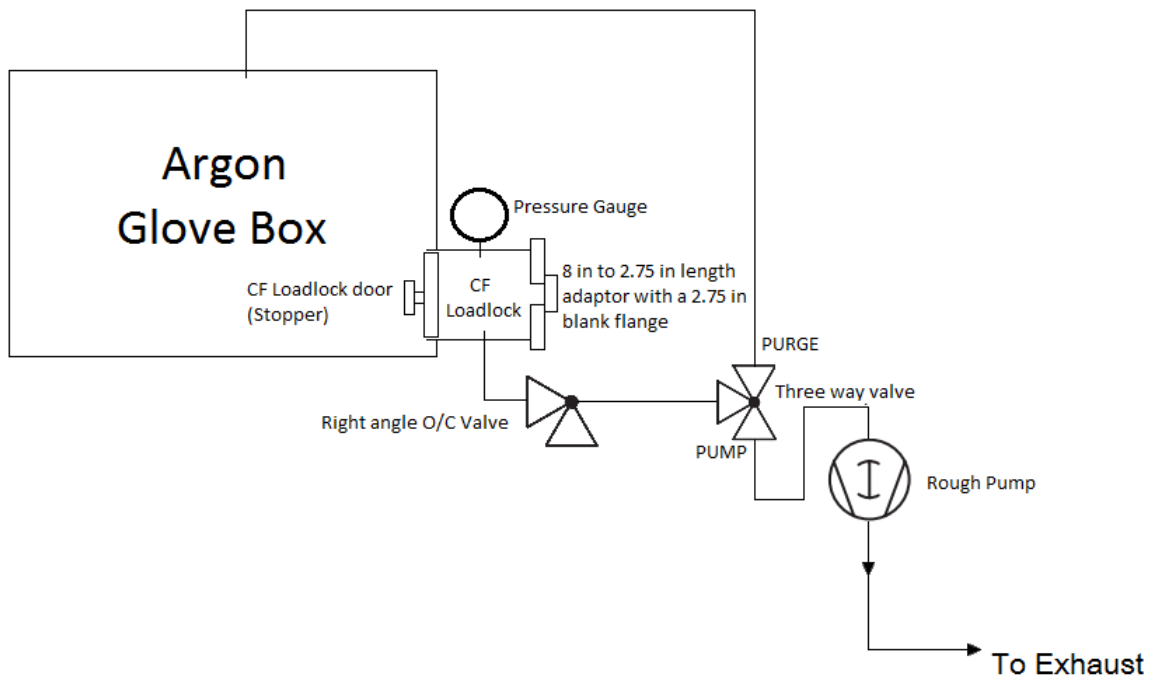

Figure 2 Line diagram of valves connected to the CF loadlock.
- 3.2. The procedure involves back-filling the AGB CF load lock with Argon. To enable this the valves on the CF load lock should be installed to be consistent with figure 2. **If the valves installed on the gas lines connected to the load lock are not consistent with figure 2, this procedure is invalid.** This is to ensure that during backfilling the pressure inside load lock does not exceed the pressure inside the AGB.